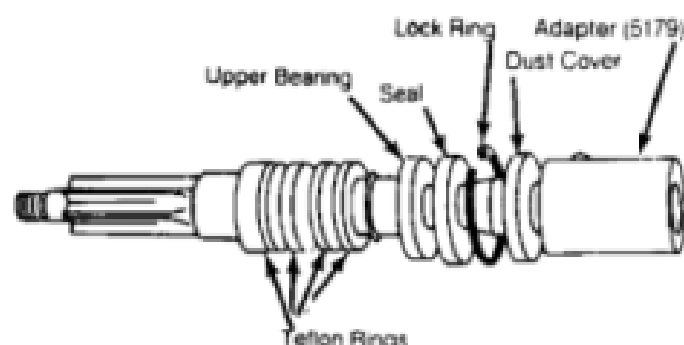

Fig. 8: Cam Gear Spool Valve Assembly (740 & 760 Series)
- 7) Remove dust cover, lock ring, seal and upper bearing from spool valve assembly. See Fig. 8.